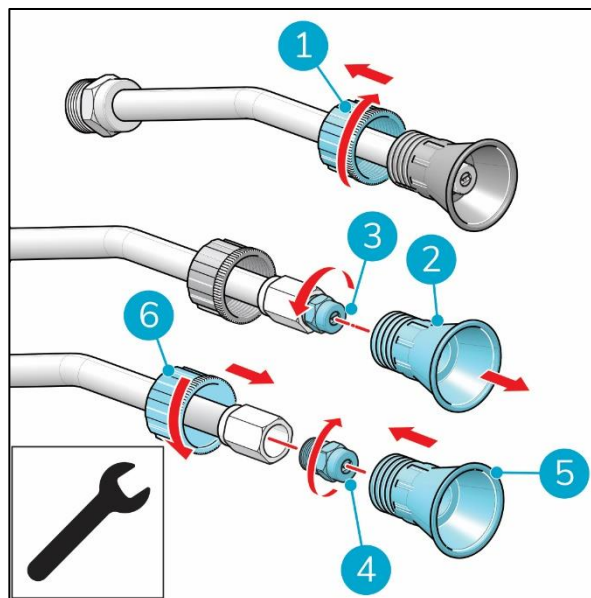

Figure 16
1. Turn the outer ring counterclockwise to loosen it (Figure 16, pos 1).
2. Remove the protection cover (Figure 16, pos 2).
3. Turn the nozzle counterclockwise to remove it (Figure 16, pos 3). Use a 14 mm wrench.
5. Turn the new nozzle clockwise to tighten it (Figure 16, pos 4). Use a 14 mm wrench.
6. Place the protection cover (Figure 16, pos 5). Back and turn the outer ring (Figure 16, pos 6) clockwise to tighten it.